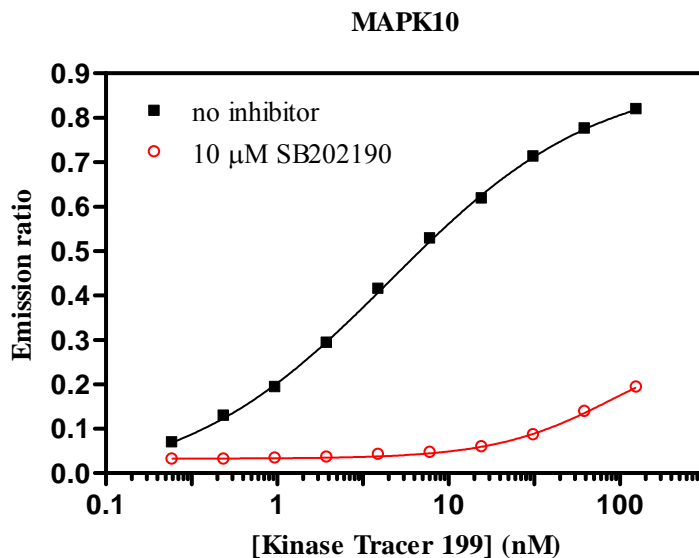

Figure 4. Tracer titration curve.
2. Plot [tracer] versus emission ratio for the competitor (SB202190) and control (DMSO only) (Figure 4). The sigmoidal dose-response curve with a variable slope can be fit to the data (optional). The following equation can be used with GraphPad™ Prism software: